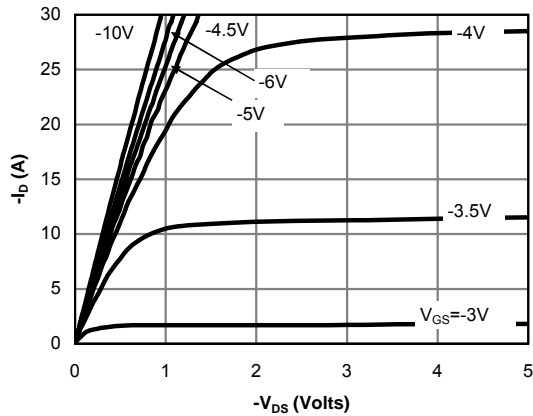

Fig 1: On-Region Characteristics
E. The static characteristics in Figures 1 to 6 are obtained using  $<300$  ms pulses, duty cycle 0.5% max.